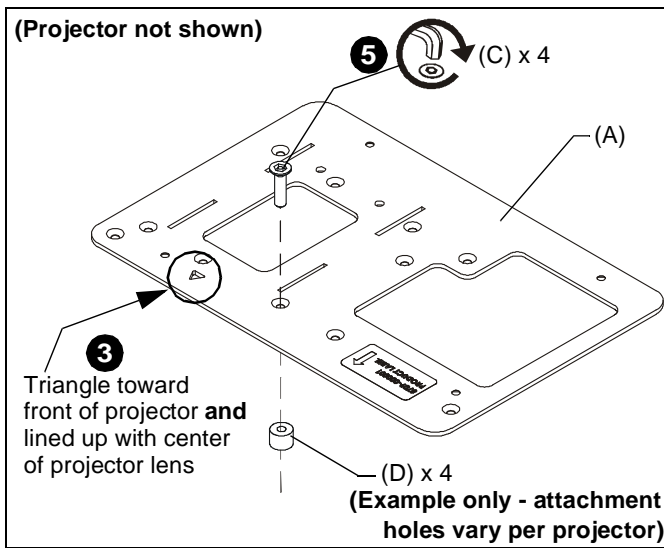

Figure 1
2. Place four spacers (D) over the threaded inserts in the bottom of the projector.
3. Place the interface bracket (A) onto the bottom of the projector, aligning the mounting holes in the bracket with the spacers and threaded inserts in the bottom of the projector, and ensuring that triangle in bracket points towards front of projector, and lines up with center of the projector lens. (See Figure 1)
4. Position M4 x 16mm flat head security screws (C) into the mounting holes, through the spacers and into the threaded inserts.